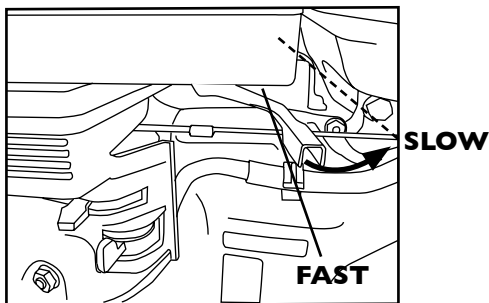

Fig 9. Throttle Lever
3. Move the throttle lever (Figure 9) away from the slow position, about 1/3 of the way toward the fast position.